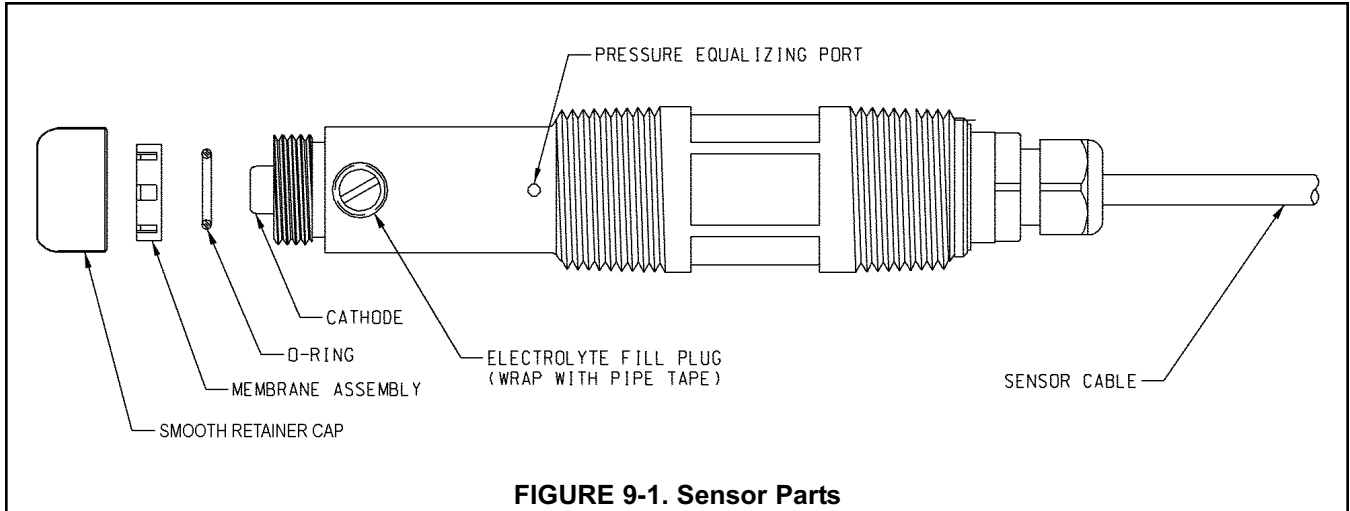

FIGURE 9-1. Sensor Parts
1. Unscrew the membrane retainer and remove the membrane assembly and O-ring. See Figure 9-1.
10. Insert a small blunt probe, like a toothpick with the end cut off, through the pressure equalizing port. See Figure 9-1.